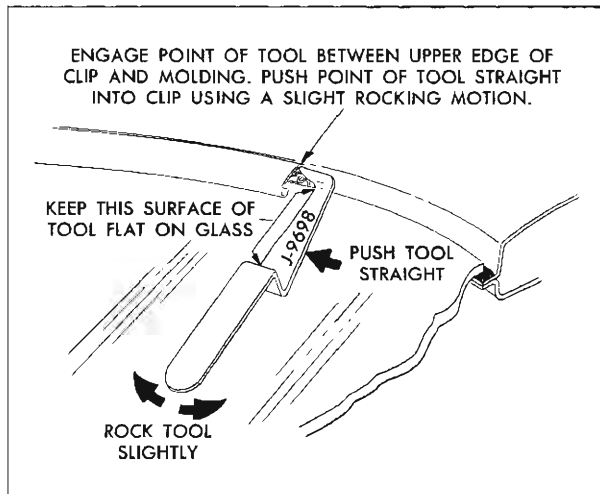

Fig. 11-16 Using Tool J-9698
4. Remove windshield reveal moldings as follows: use reveal molding clip disengagement tool, J-9698 (Fig. 11-16). Remove upper reveal moldings first, next, disengage side reveal moldings and outer ends of lower reveal molding from clips; then, remove side reveal moldings. Remove lower reveal molding.
4. Remove windshield reveal moldings as follows: Use reveal molding clip disengagement tool, J-9698 (Fig. 11-16). Remove upper reveal moldings first. Next, disengage side reveal moldings and outer ends of lower reveal molding from clips; then, remove side reveal moldings. Remove lower reveal molding.